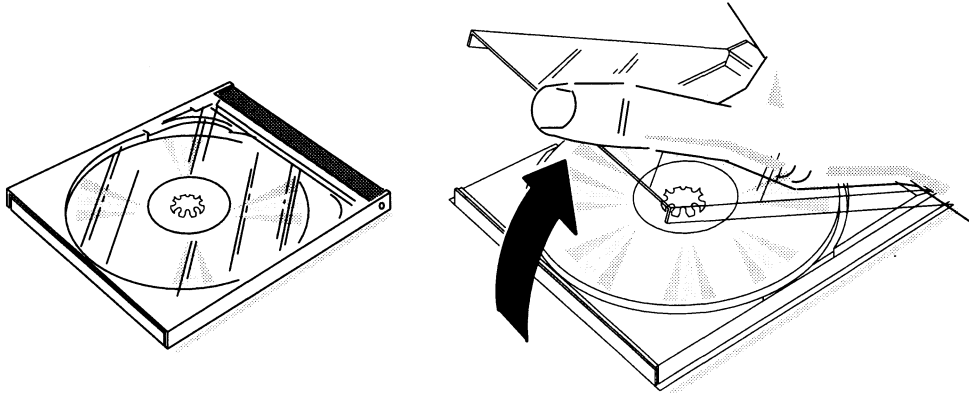

Figure 8 Opening the CD-ROM case
1. Open the plastic cover of the CD-ROM by squeezing two sides of the case, as shown in Figure 8.